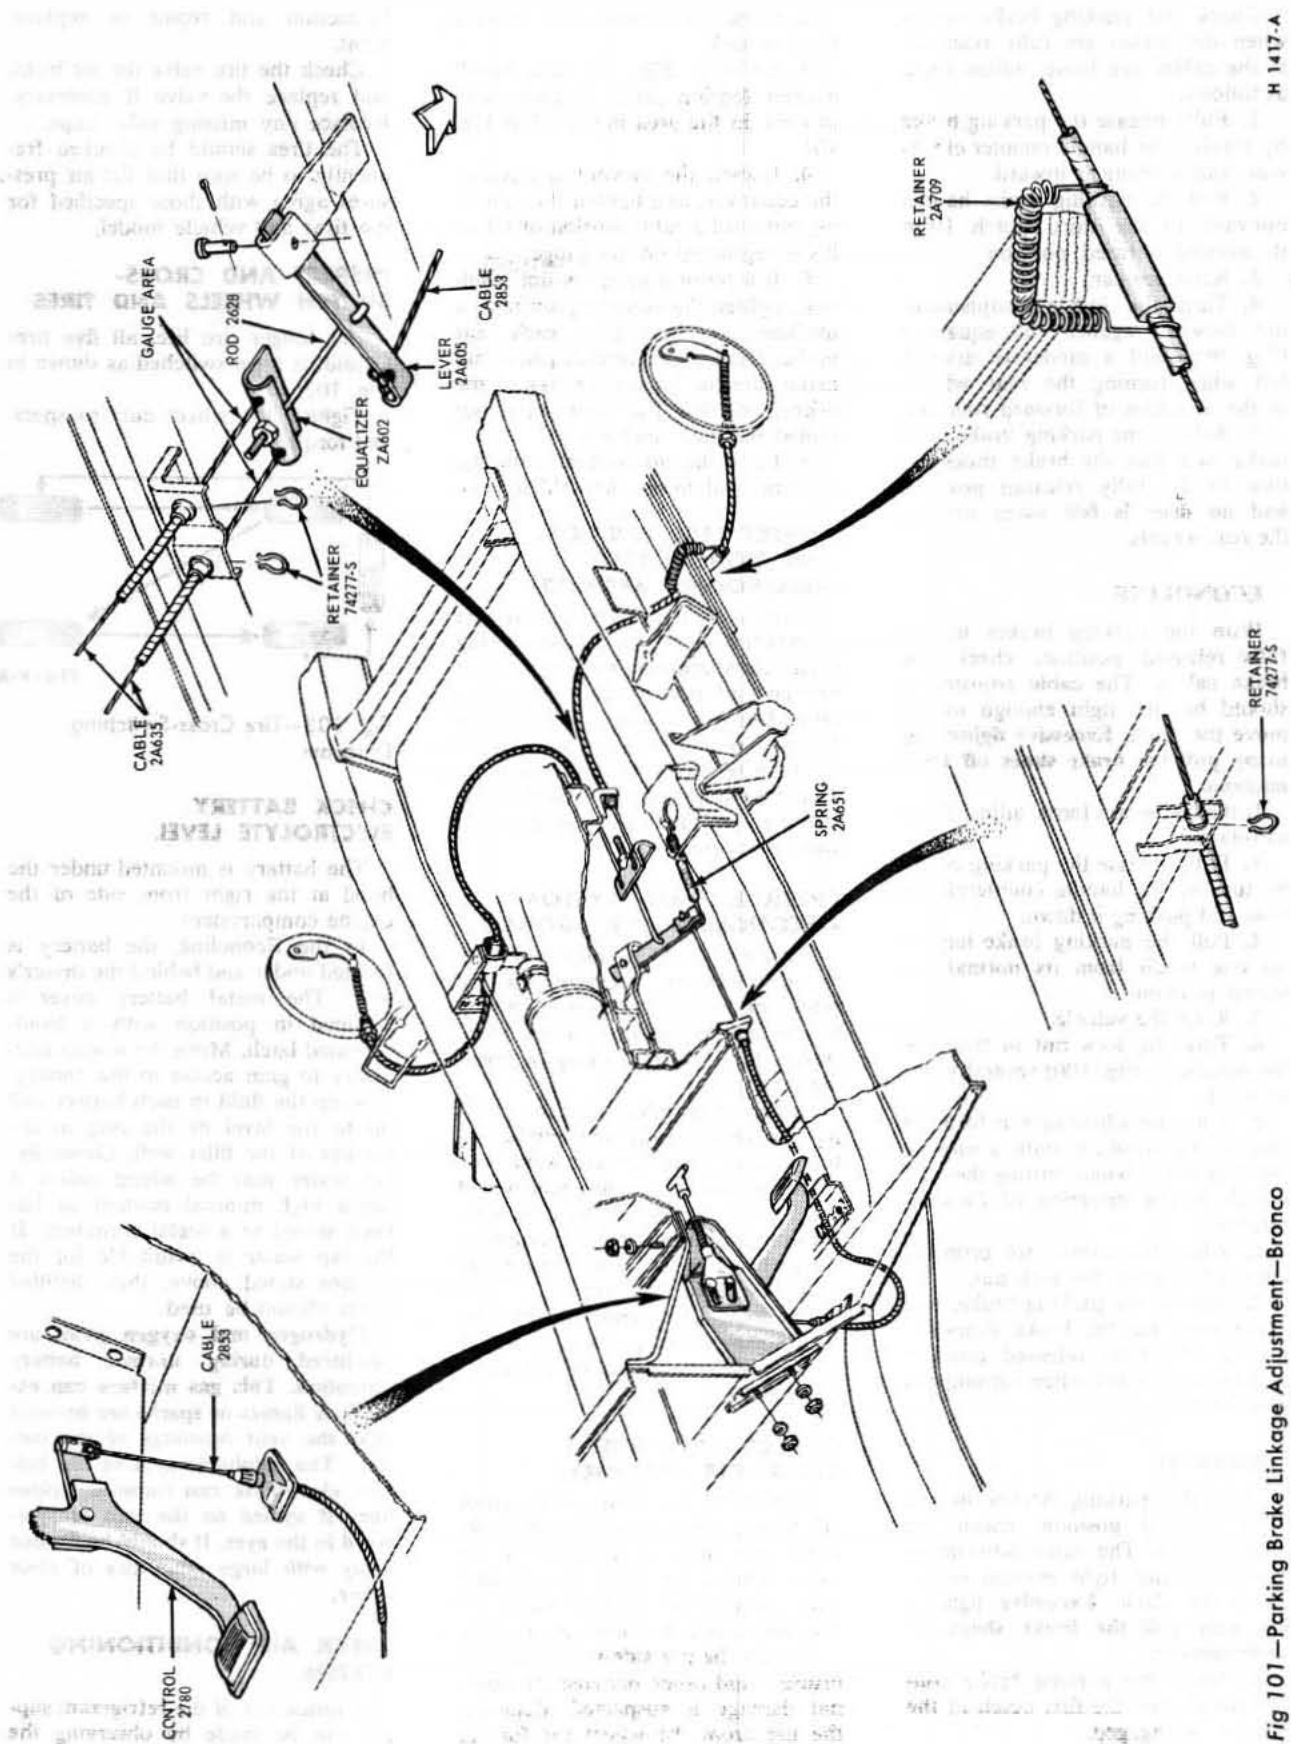

Fig 101 — Parking Brake Linkage Adjustment—Bronco
3. Refer to Fig. 101 and install a cable tension gauge to each cable in turn, in the area indicated in Fig. 101.